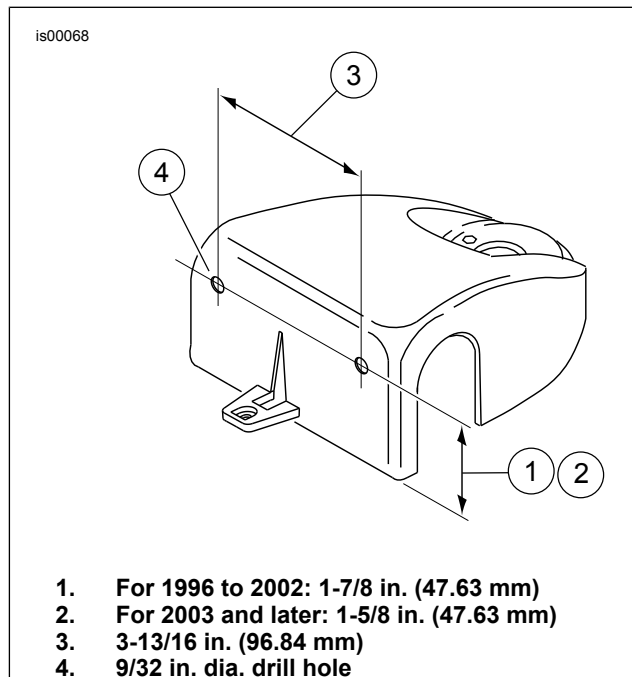

Figure 6. Bracket Hole Locations in FLHR Shroud
2. See Figure 6. Measure and mark the gauge bracket hole locations.
4. See Figure 6. Attach gauge bracket to shroud with screws, lockwashers and nuts.